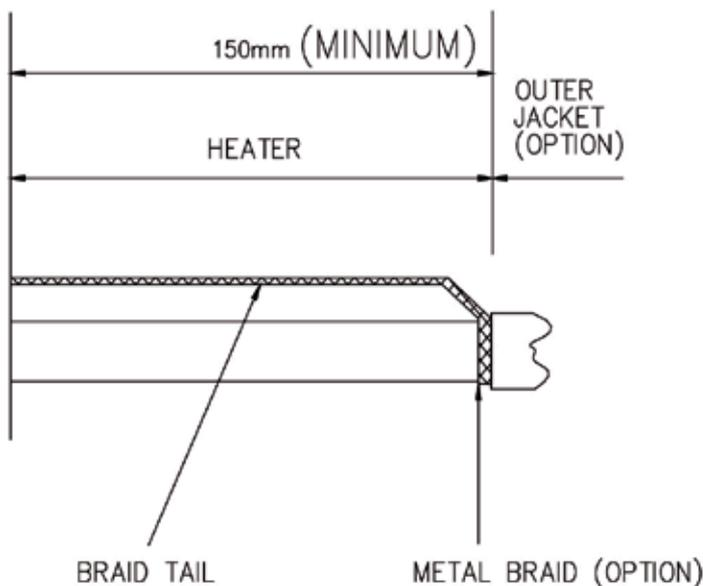

Fig 1
1. BRAID & OVERJACKETED WIDE CABLES - Referring to figure 1, strip back the outer jacket by 150mm.